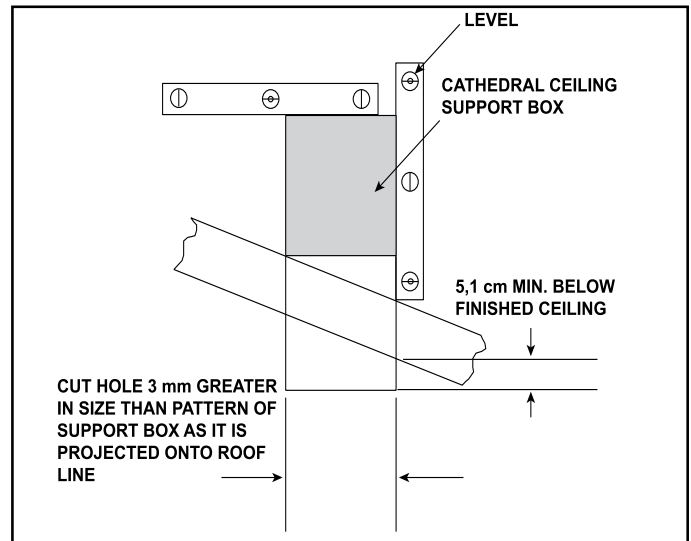

Figure 10.9
- Lower the support box through the hole in the roof until its bottom is at least 5,1 cm below the ceiling (Figure 10.9).